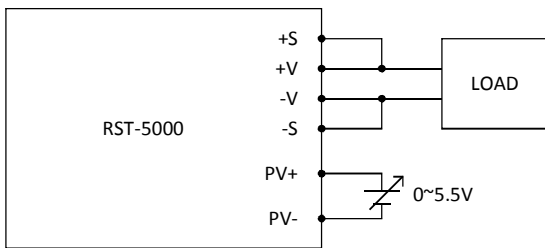

Fig 3.1
- (1) Switch DIP-SW position-2 to upper position(ON) when AC power off.
- (2) Connecting an external DC source between PV+ and PV- on CN313 or CN314, and +S & +V, -S & -V also need to be connected that is shown in Fig 3.1.